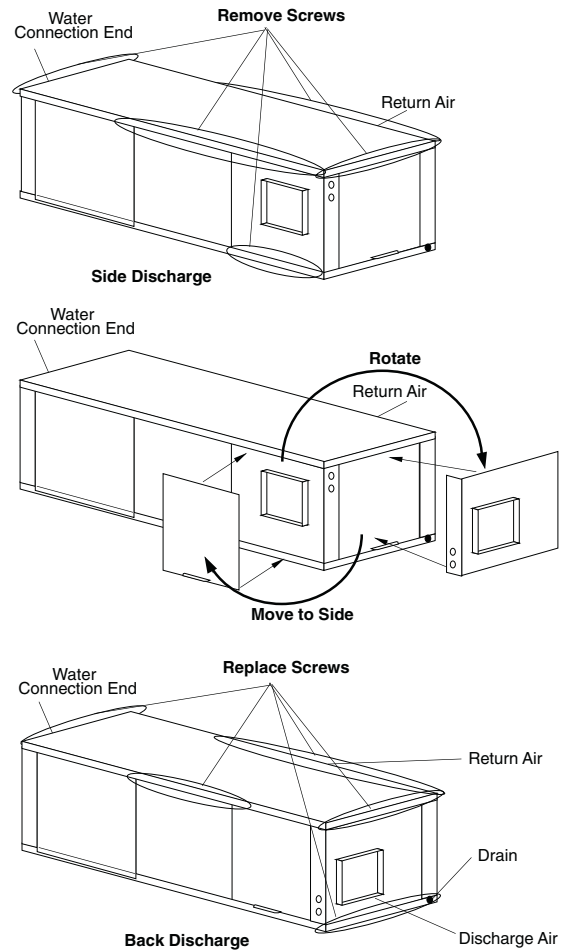

Fig. 7 — Conversion Left Return, Side Discharge to Back Discharge
FIELD CONVERSION OF DISCHARGE AIR — The discharge air of the 50PSH horizontal units can be converted between side and back discharge in the field. The conversion process is the same for right and left return configurations. See Fig. 7 and 8.
1. Remove screws to free the top and discharge panels. Set screws aside for later use. See Fig. 7.